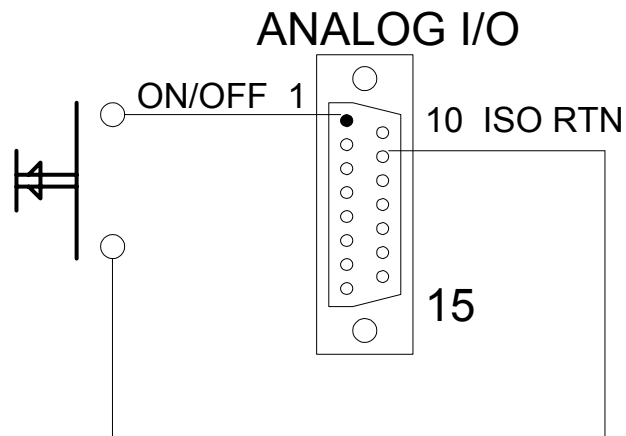

Figure 4-8: Remote On / Off Control by Contact Closure
1. Remote on/off by contact closure. Output is OFF when contacts are closed. See Figure 4-8 for connection requirements.